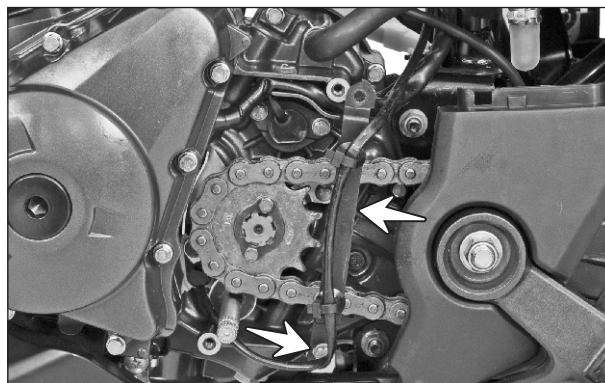

Fig. 2.92
- Remove the hexagonal flange bolt (M6x16 - 1 no.) from speed sensor cable guide mounting and dislocate the cable guide to enable easy removal of drive sprocket. (Fig. 2.92)